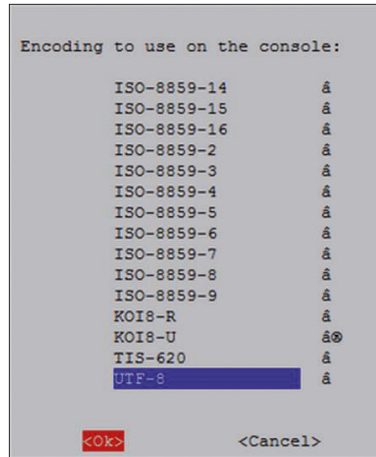

Figure 1.4: Select UTF-8.
- Select **UTF-8** in the **Package Configuration** screen (Figure 1.4)